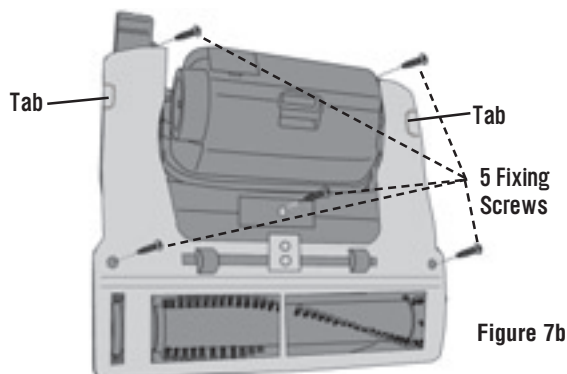

Figure 7b
2. Press the Upright Release Pedal and lower the Upper Handle so that it touches the floor. Turn the Vacuum Cleaner over and remove the 5 fixing screws. (See Figure 7b.)